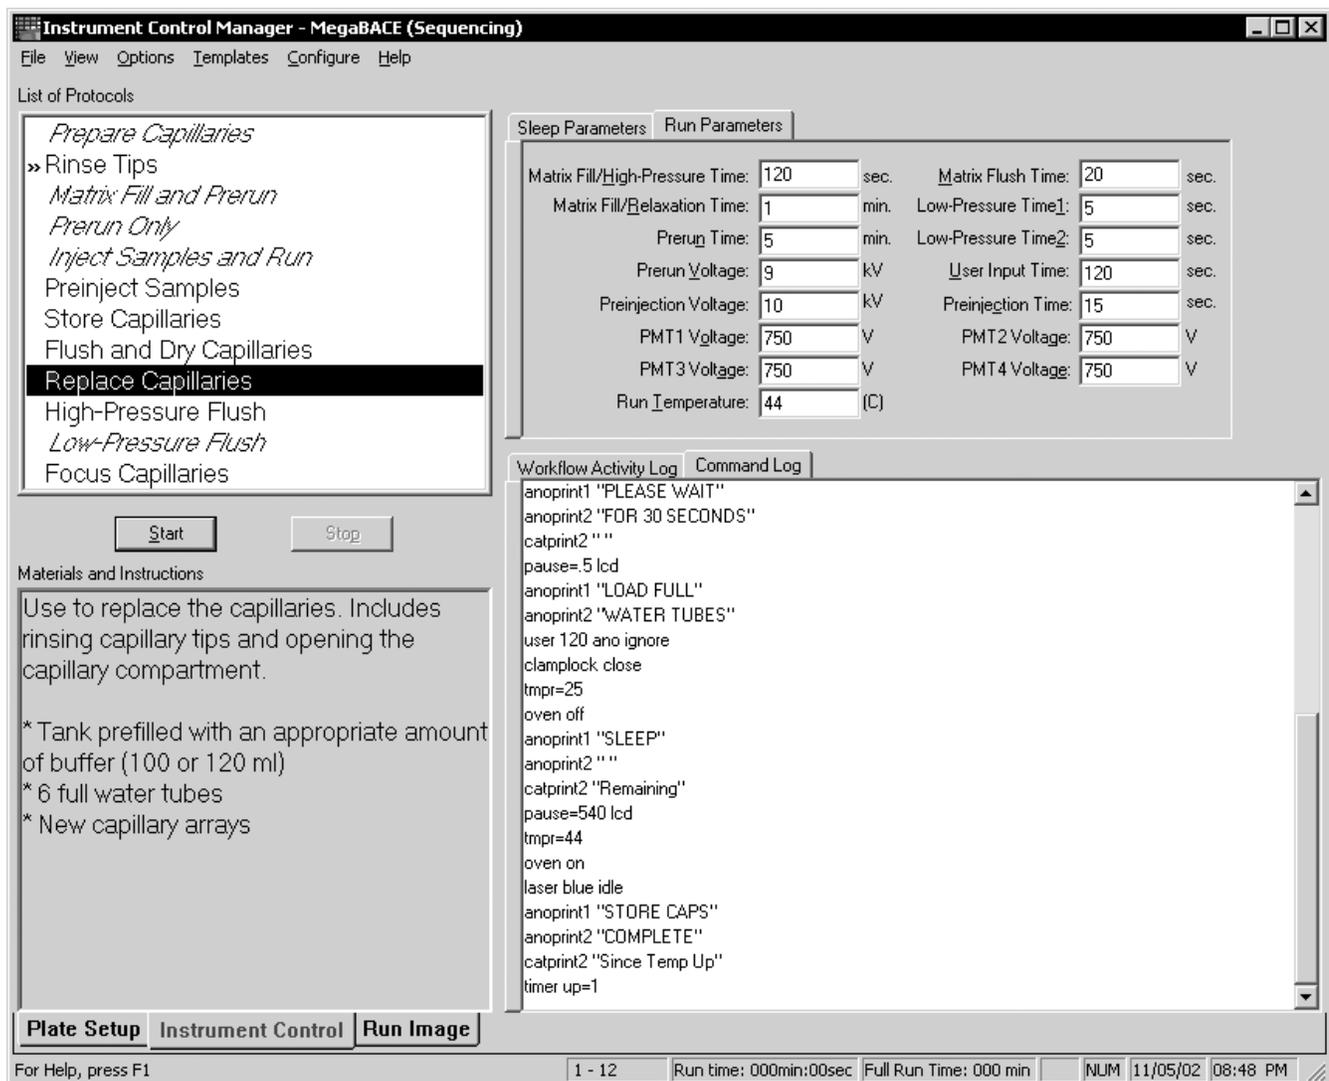

Figure 19-3. The Instrument Control window.
1. In the Instrument Control window (figure 19-3), click the **Replace Capillaries** protocol, and then click **Start**.